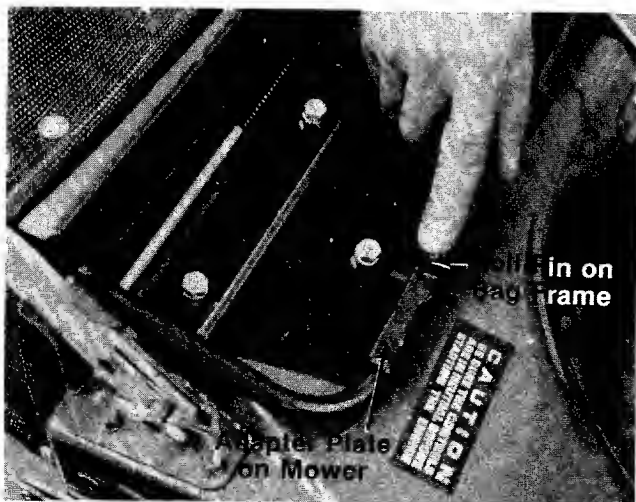

FIGURE 16.
- Tilt bag slightly forward and slide roll pin on bag frame into slot on mower. See figure 16. Push down on bag to position on mower.